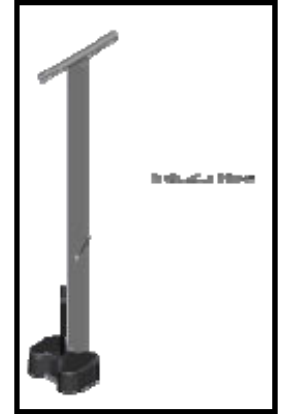

Figure 5.
3. Install coupler with seated bolt on the in-water installation tool, (Figure 5).
require a counter balance weight toward the entry end of the EZ BoatPort to offset the weight of the installer who is standing at the seam between the EZ BoatPort and the EZ Dock). The coupler is fully seated in its pocket when the indicator hole on the in-water installation tool (Figure 5) is flush with the top of the dock (you should be able to insert a screwdriver through the indicator hole).